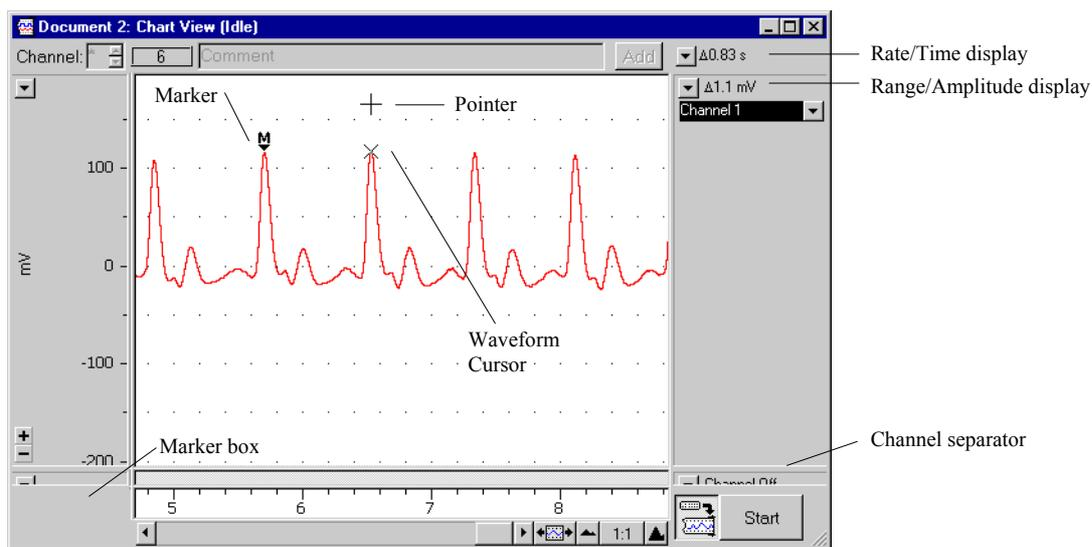

Figure 11. Measuring values with the Waveform Cursor and Marker.
As an exercise, measure the amplitude of your finger pulse signal (in millivolts or volts) and the time in seconds from peak to peak (as shown in Figure 11). What is your heart rate, calculated using the peak-to-peak measurement?
The heart rate calculated from the time difference shown in Figure 11 would be: $60 \text{ s} / 0.800 \text{ s} = 75 \text{ beats per minute}$.
- Move the pointer to the gray horizontal line near the bottom of the Chart View (this is a channel separator: see Figure 11), and drag it up to display Channel 2. The pointer changes when it is over the channel separator.